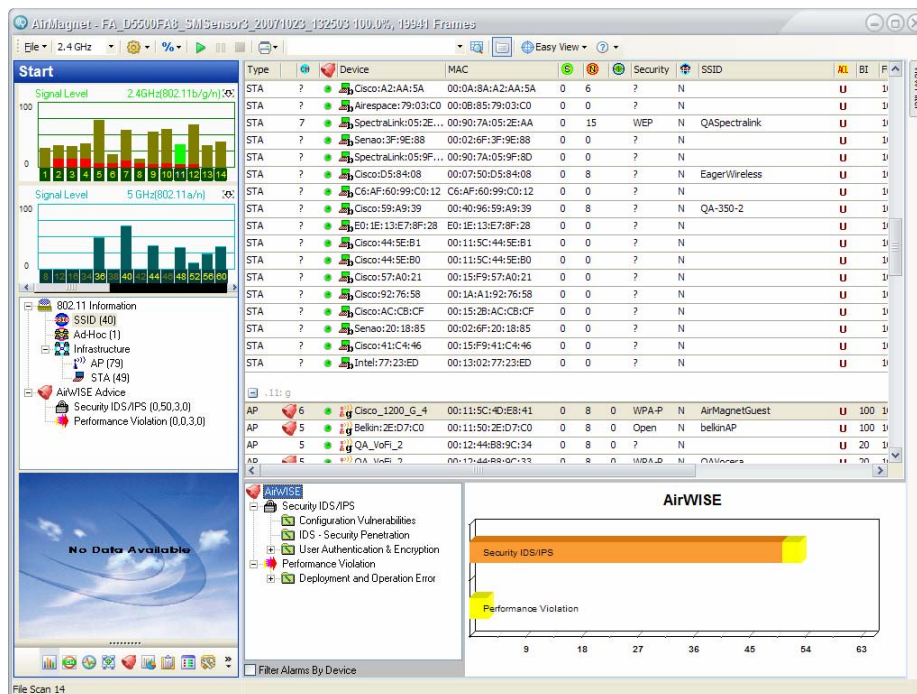

Figure 6-13: Forensics Evidence File
- 2) The forensics log appears. See Figure 6-13.